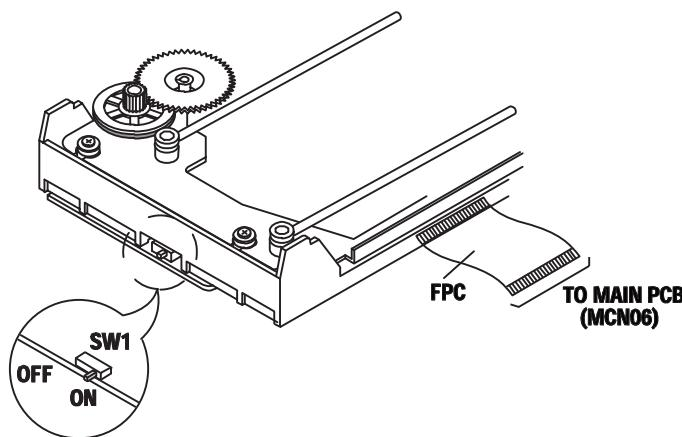

Fig. 1-4
- 4) Insert FPC into CN6 (Main PCB) and switch SW3 (on deck PCB) to "ON". (see Fig. 1-4)